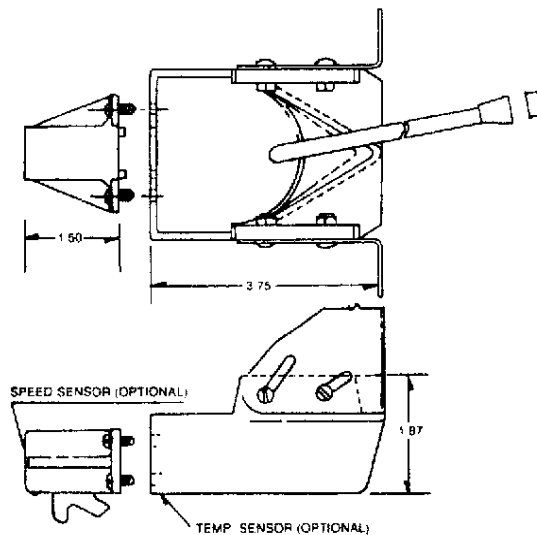

Figure 4
3. Dimensions, see figures 4 and 5.